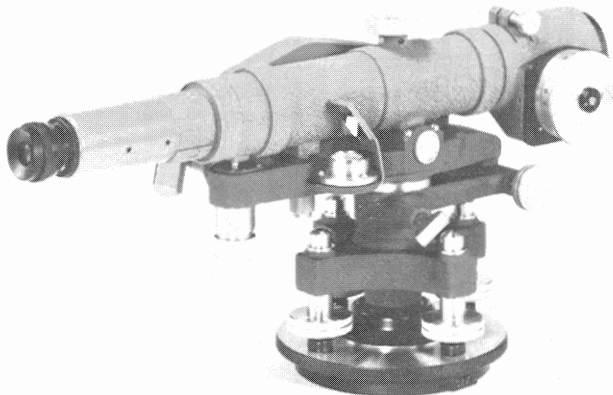

Figure 2. Precise Tilting Level—used to measure vertical displacement from a horizontal plane.
2. The precise level (Figure 2)